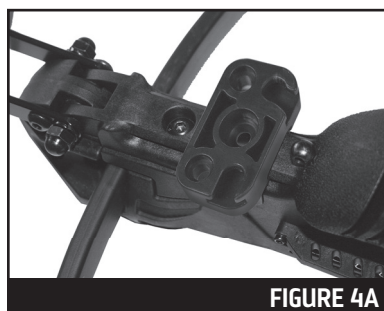

FIGURE 4A
1. Open the nose cone latch on the bottom side of the nose cone and slide the quiver bracket over the picatinny rail. Insert the quiver bracket screw into the center hole of the quiver bracket and secure, as shown in Figure 4A.